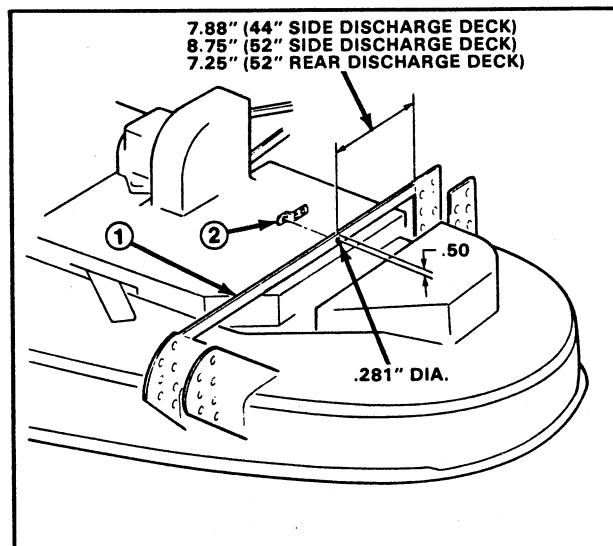

Figure 1
Note: Dimensions shown in Figures 1 and 2 pertain to both 44" and 52" cutting units unless otherwise specified. Use appropriate dimensions when locating holes. Cutting units with serial numbers of 60001 and up may already have mounting holes drilled.
1. Using dimensions shown in Figure 1, locate and drill (2) .281" dia. holes in cutting unit deck support bars (one in each side).
3. Position anchor bracket on inside of deck support bar, aligning front hole with drilled hole (Fig. 1).
4. Using anchor bracket as a template, mark and drill (2) .281" dia. holes in each deck support bar. Clevis pin may be used to align holes when marking.
5. Mount anchor bracket to the inside of each deck support bar with (2) round head screws and locknuts. Position screw heads toward outside of deck.